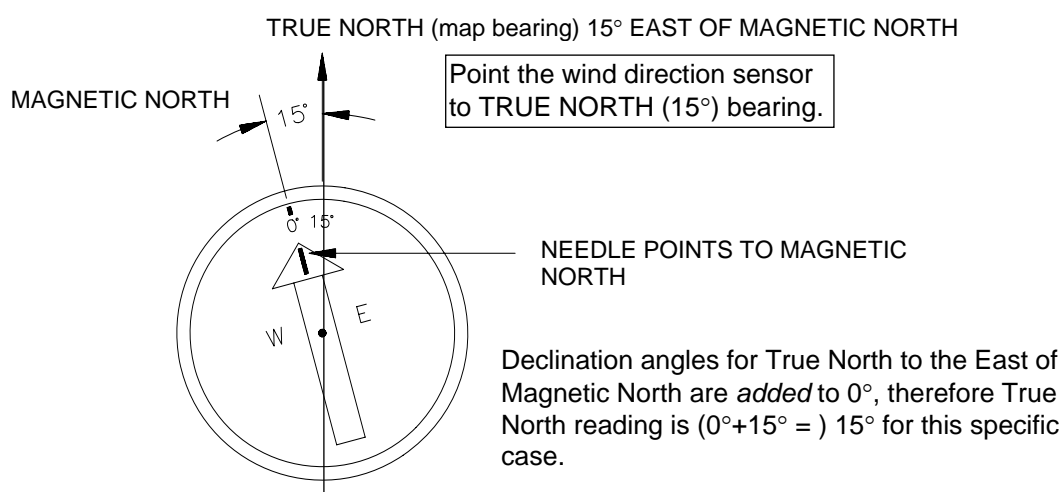

Figure A-1 Declination Angles – True North to East of Magnetic North
3. Add (or subtract) the declination angle to find the position of true north for your site. (In the UK the declination angle from magnetic to true north will always be to the east, and so will be *added* to the magnetic north value, as shown in Figure A-1, below.)